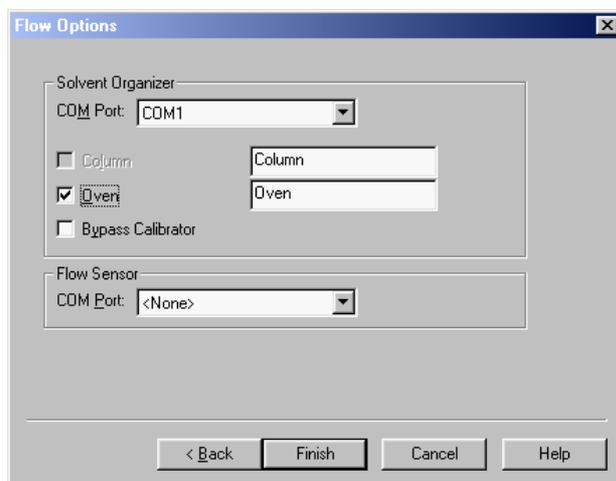

FIGURE 2-18 The Flow Options Box
- f) Click on **Next** to open the *Flow Options* dialog box (FIGURE 2-18).
- g) Select the **COM Port** to control the Solvent Organizer and check the **Oven** box if an oven is installed in your UltiMate System (FIGURE 2-18). For details how to setup the **Flow Sensor** option (if installed), refer to Appendix A.